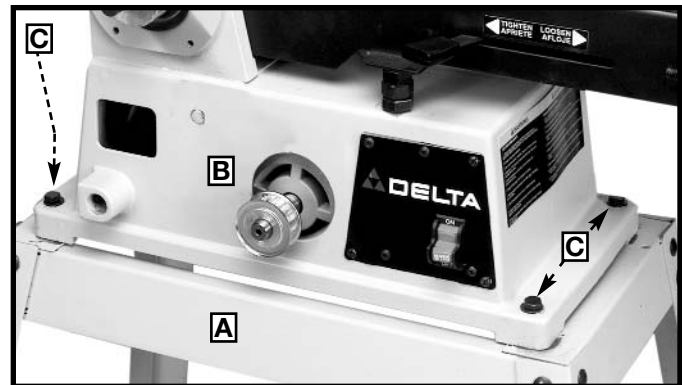

Fig. 5
Carefully set the sander on the stand. Align the four holes on the top of stand (A) Fig. 5 with the four mounting holes on the base of sander (B). Place a 3/8" flat washer on an M8 x 45mm hex head screw (C). Insert the screw through the hole in the base of the machine (B) and stand (A). Place a 3/8" flat washer on the other end of the screw and thread an M8 hex nut on the screw. Tighten securely. Repeat this process for the three remaining holes.